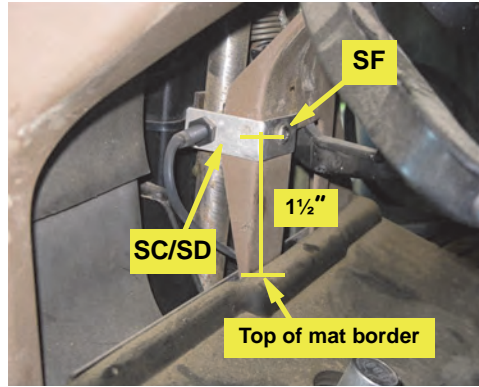

Figure 3: Installed sensor/bracket
- b. Using self-drilling screw **SF**, attach the aluminum bracket/sensor assembly **SC/SD** to the plastic cover at the point you measured (Figure 3).